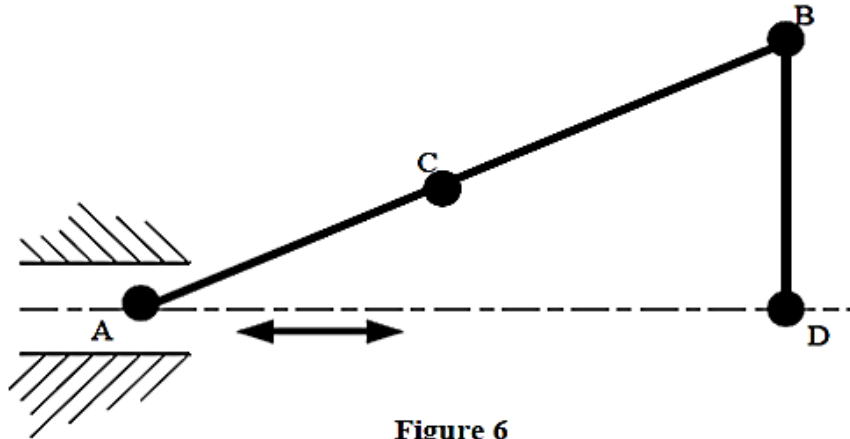

Figure 6
7. (a) The link mechanism of machine is given in Figure 6. Construct a locus of point C when point B of crank BD is hinged at point D making one complete revolution while point A is oscillating on the guide. Given that: